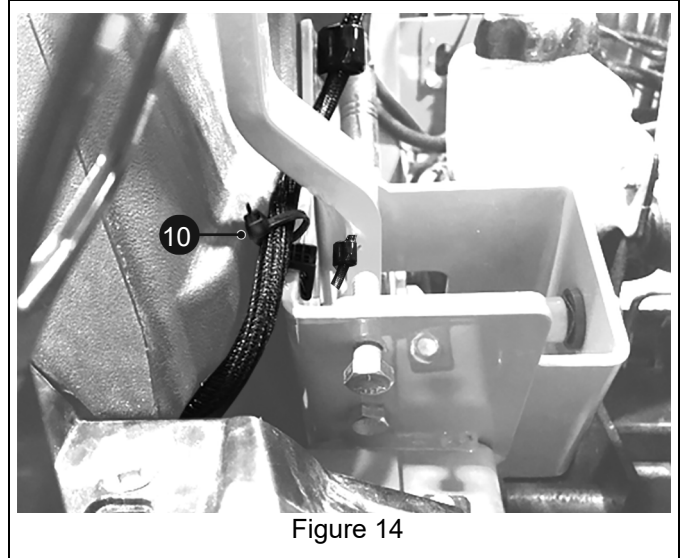

Figure 14
6. Install one EC23 clip (item 10) on top outside edge of right steering lever bracket. Secure harness with clip cable tie. See Figure 14.